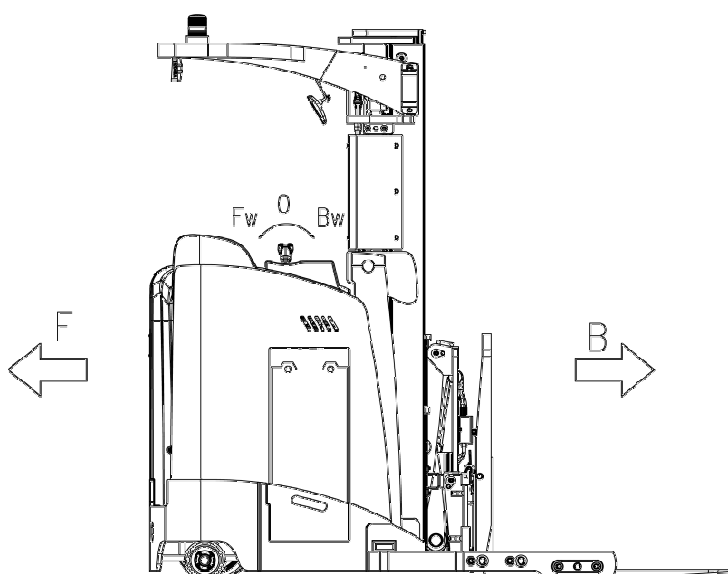

Fig 12 Driving direction
Turn the inserted key to the "open" position (Figure 9). Finally, carefully pull up the emergency stop button (Figure 7.3) to start the truck. Move the handle to the operating area ('Fw', Figure 12).
Move the operating handle to the desired forward direction 'F' or backward direction 'B' (Figure 12).
If you move the joystick back to the middle position 0 (Figure 12) or release the foot switch, the controller will slow the truck until it stops. If the truck stops, the parking brake starts to work.
- During driving, move the joystick back to the neutral position 0 (Figure 12) to truck braking.